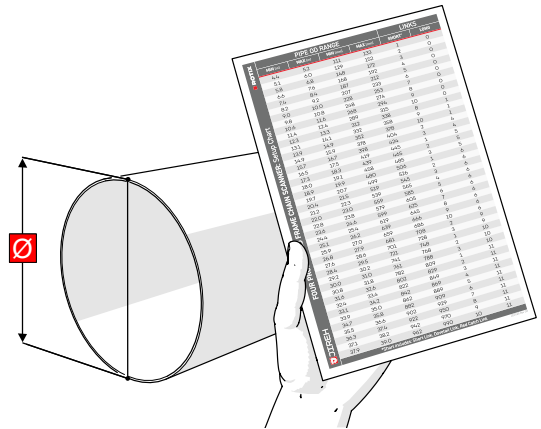

Fig. 88 - Refer to setup chart
1. Determine the diameter of the pipe or tube to be scanned. Included in the **SKOOT•X** kit and in this manual are setup charts which indicate the number of links required based on the diameter of the pipe or tubing. Refer to the appropriate chart based on the number of probes to be used when scanning (Fig. 88).